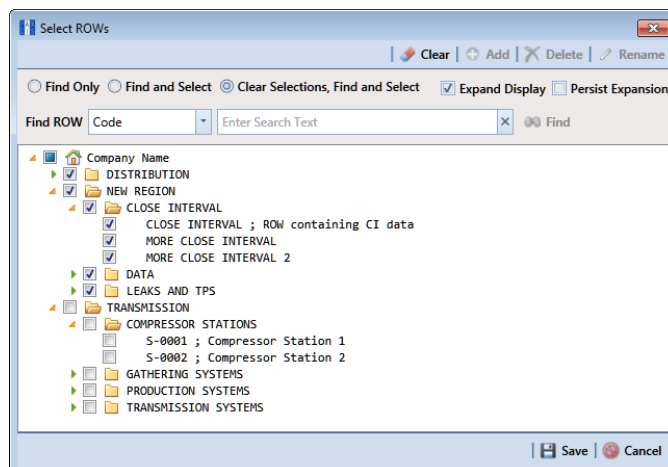

Figure 8-36. Select ROWs
- 1 Select one or more pipeline segments in the *Select ROWs* window (Figure 8-36). Select pipeline segments with facilities you plan to include in the route. Click  **Save** to close the window.